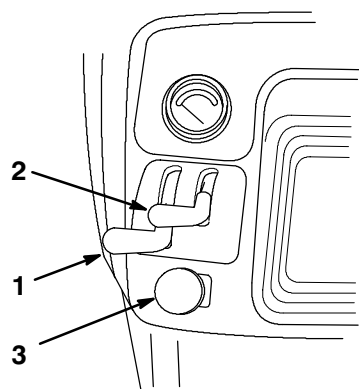

Figure 13
3. Push the PTO switch to the off position (Fig. 13).
4. Move the choke lever to the on position (if the engine is cold) (Fig. 13 and 14).
5. Move the throttle lever halfway to the fast position (Fig. 13 and 14).
8. After the engine starts, move the choke lever to the off position (Fig. 13 and 14).
1. Move the throttle lever to the slow position (Fig. 13 and 14).